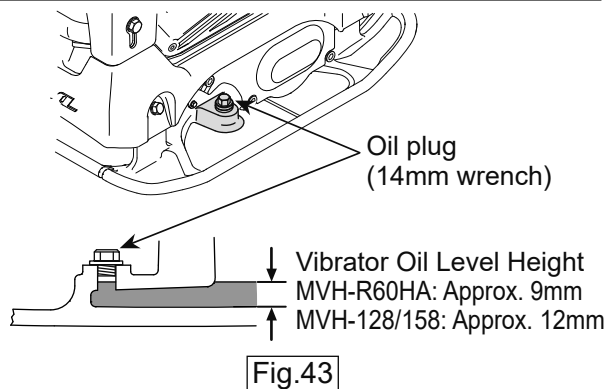

Fig.43
- At every 100 hours of operation, check the vibrator oil level if it is within the allowable range by removing the oil plug of vibrator. (Fig.43)